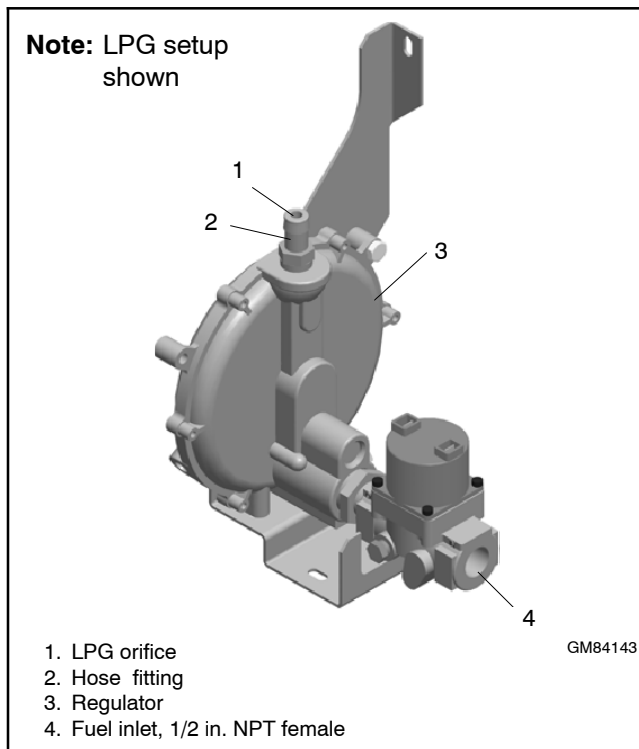

Figure 6-37 Fuel Regulator and LPG Orifice, 20 kW Models
5. Remove the hose clamp and fuel hose from the hose fitting. See Figure 6-37.
6. Insert the orifice into the hose fitting. See Figure 6-37.